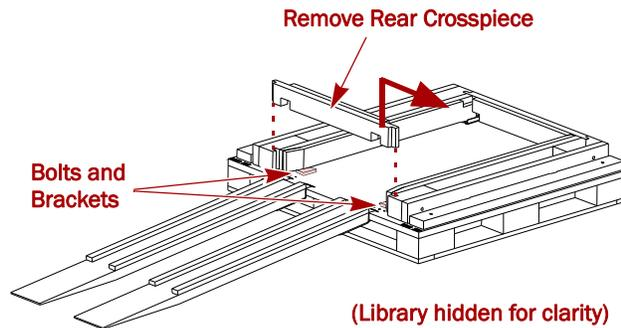

Figure 2-5: Removing the Rear Crosspiece
- a. To access the hold-down bolts and leveling legs, remove the **rear crosspiece** (Figure 2-5).